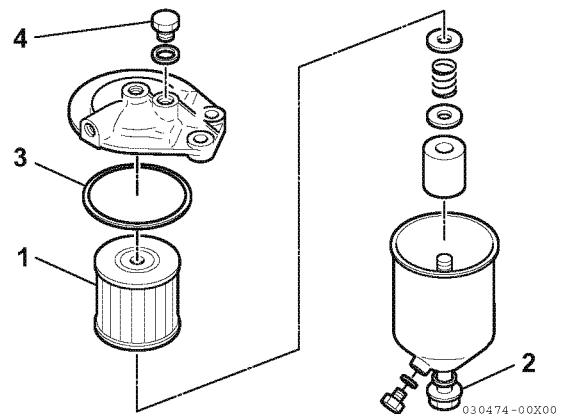

Figure 43
2. Loosen the center bolt (2, Figure 43) of the water separator, remove the lower casing, and extract the internal element.
3. Replace it with a new element (1, Figure 43) and tighten the center bolt (2, Figure 43) securely. Replace the packing (3, Figure 43), if damaged.
5. After replacing the element (1, Figure 43), be sure to bleed the air trapped in the fuel system using the air bleed plug (4, Figure 43).